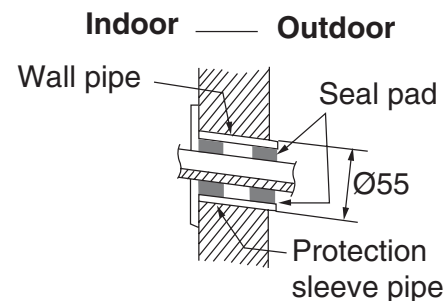

Fig.13
2. Make the piping hole (Ø55) in the wall at a slight downward slant to the outdoor side. (Fig.13)